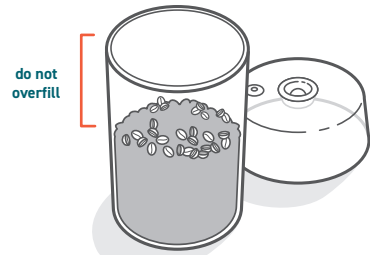

Figure 3.1
1. Make sure the container is dry before using. Fill the container up to  $\frac{3}{4}$  full. **Do not** overfill. [Figure 3.1]